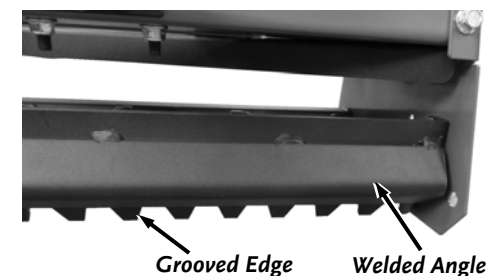

Figure 42
**Note:** The Mold Board must always be positioned with the welded angle facing toward the rear (**Figure 42**).